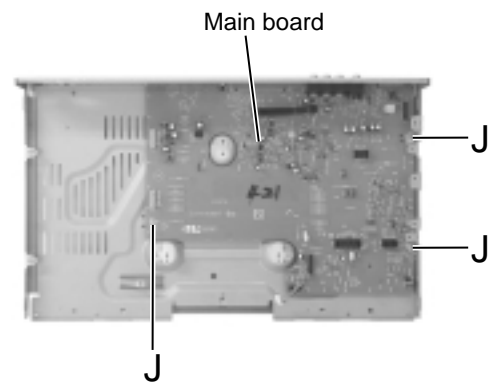

Fig.19
■ Removing the main board (See Fig.19 and 20)